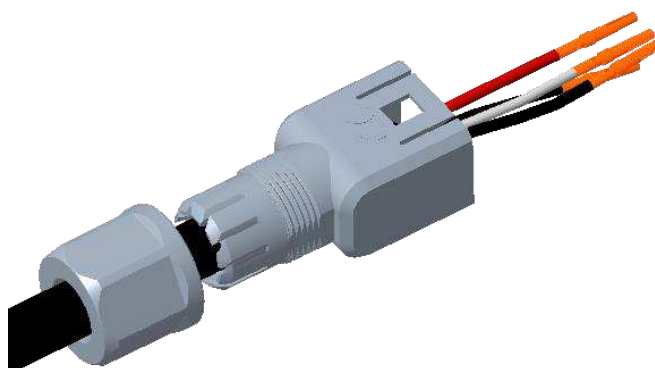

Figure: 7
1. Reeve the crimped terminal cable to the cable adapter as Figure 7 show: